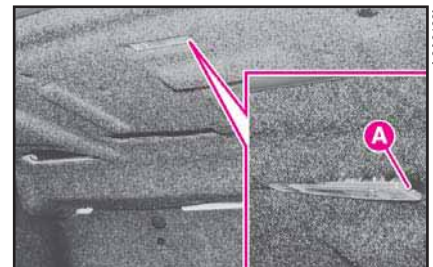

fig. 40
1) Remove the lens by using a screwdriver as a lever on clip **A** (**fig. 40**).